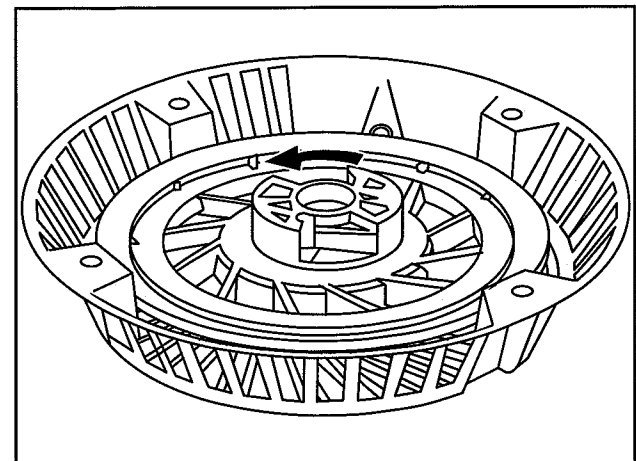

Fig. 23 – Engage Spring – Early Style
4. Invert assembly, rotate pulley counterclockwise until inner spring tab engages spring anchor, Fig. 23.